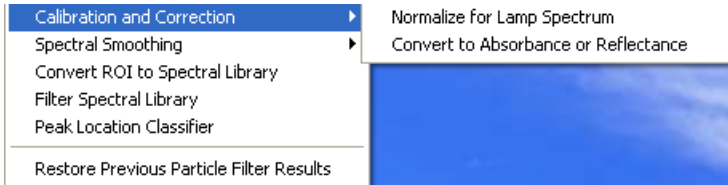
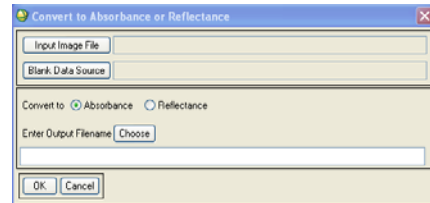

Figure 1. CytoViva Analysis tab
Figure 2. Convert to Absorbance or Reflectance box
3. Then click the Convert to Absorbance or Reflectance (see Figure 1) and the Convert to Absorbance or Reflectance box will open (see Figure 2).